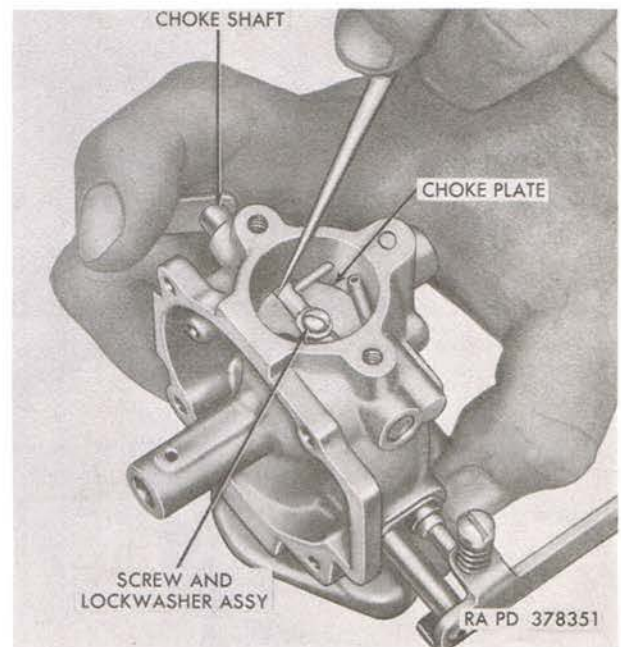

Figure 6. Scribing choke plate—using a scribe.
a. *Remove Idle Adjusting Needle.* Remove idle adjusting needle (G) and spring (F) from body (Q).
b. *Remove Choke Plate.* Hold the choke lever in fully closed position and scribe a line across the choke plate along the edge of the choke shaft, as shown in figure 6, to insure correct positioning of the plate at assembly. Remove screw and lockwasher assembly (D) securing plate (E) to shaft of choke shaft and lever assembly (L) and remove plate. Be careful not to bind plate in body.